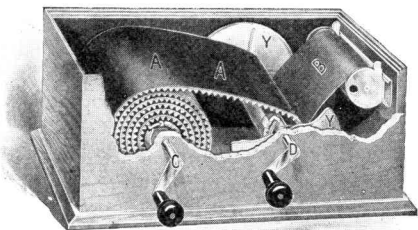

Fig. 1
5. Insert film cartridge in spool carrier and close up the movable arm against end of spool. Have the red paper ("B" in Fig. 1) lead from the top.